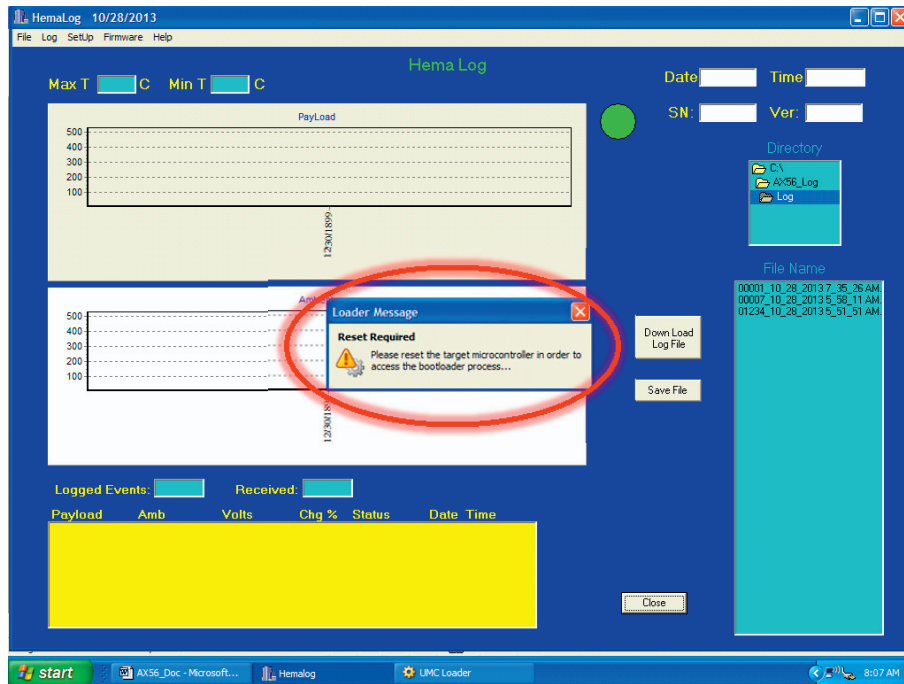

Figure 55. Reset Required Dialog Box
- When the **Reset Required** dialog box appears, quickly(within 2 or 3 seconds) disconnect and reconnect the internal battery connector. The firmware will then download (Figure 55).